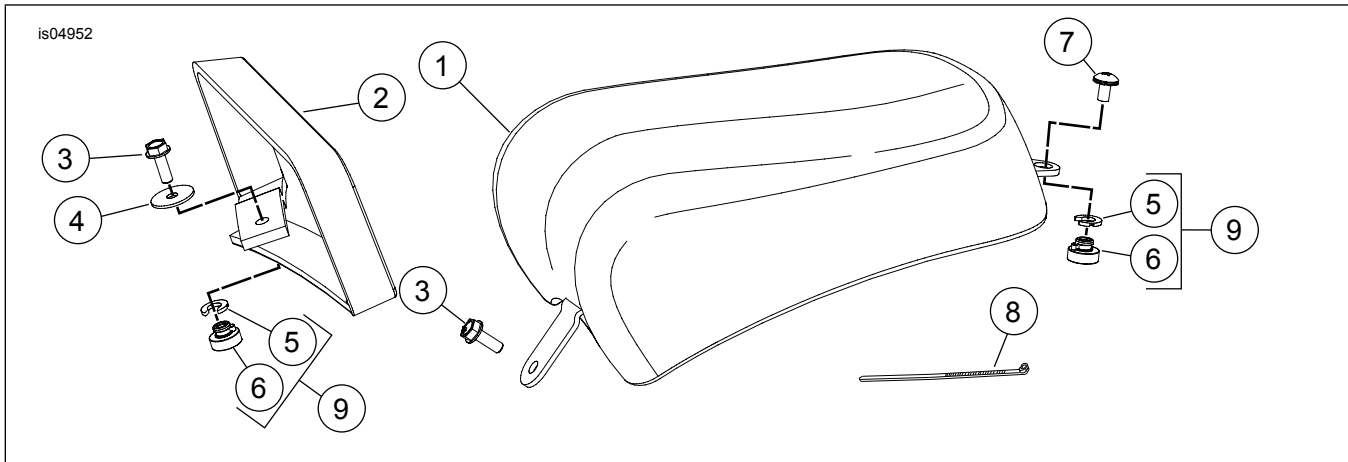

Figure 5. Service Parts for FLSTSB Passenger Pillion Seat
See Figure 5 and Table 1.
4. See Figure 5. Install new grabstrap (2) with washer (4) and cap screw (3) into the forward retention nut. Tighten the cap screw to 11–18 N·m (8–13 ft-lbs).